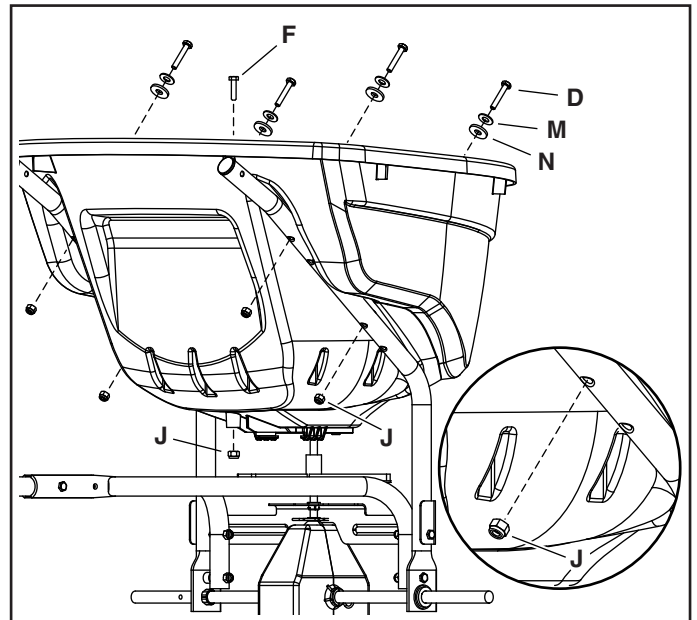

FIGURE 8
STEP 8: (SEE FIGURE 8)
- Attach the hopper to the upper set of holes in the hopper support tubes using four 1/4" x 1-3/4" hex bolts (D), 1/4" washers (M), nylon washers (N) and 1/4" nylock nuts (J). **Make only finger tight.**
- Insert the 1/4" x 1" hex bolt (F) into the hole in the bottom of the hopper, pressing the head of the bolt into the hex shaped recess of the hole. Install a 1/4" nylock nut (J) onto the bolt and **tighten.**